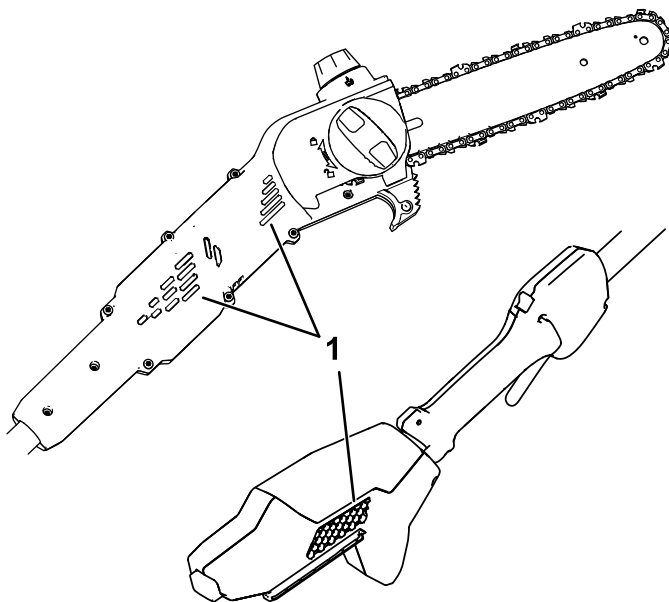

Figure 10
1. Ensure that the vents on the pole saw are free from dust and debris (Figure 10).